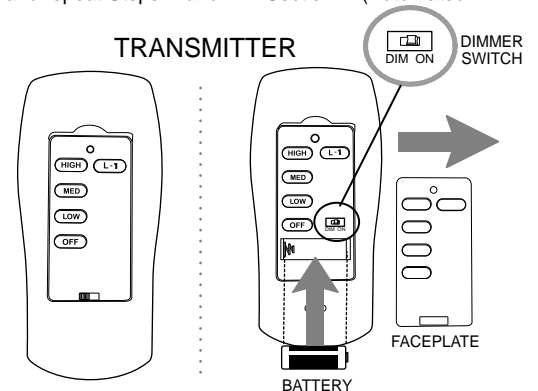

Fig. 4
- D. Restore electrical power. Within 30 seconds of restoring electrical power, press the "OFF" button, located on the front of the remote control transmitter, for 5 seconds or until light on fan blinks twice. Test the light and fan functions to confirm the programming (learning process) is complete. (Figure 4)
- E. Replace faceplate on transmitter. (Figure 4)